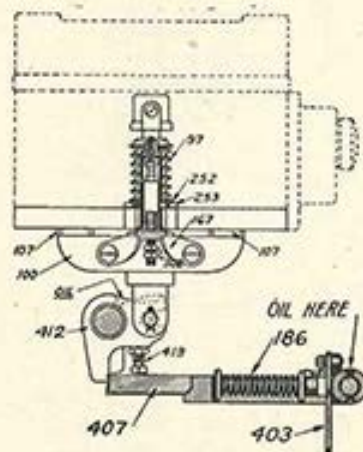
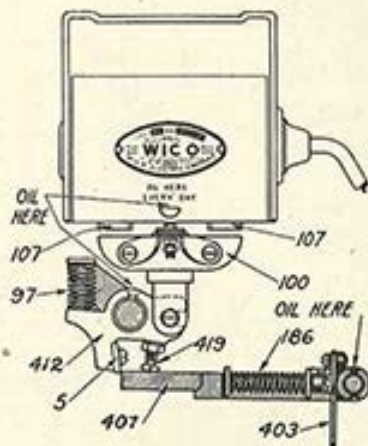

Figure 15
Figure 16
The numbers on Figures 15 and 16 will be used in the instructions on adjusting Wico Magnetos. Figure 15 is a cut of the type P. R. showing the position of the trip finger No. 407 and armature No. 100, just before the contact between armature No. 100 and the face of the cores No. 107 has been broken. Figure 16 is cut of type E. K. showing position of the trip finger No. 407 and armature No. 100 after the contact between armature No. 100 and the face of the cores No. 107 has been broken, also at the point where trip finger No. 407 trips off of rocker arm No. 412 causing armature No. 100 to return to its original position.
(See Figure 16)
Trip the armature (100) from its contact with the cores (107) and insert a strip of metal 7-64" thick between the armature and the face of the cores. Move the push rod slowly until the latch of the trip finger reaches the rocker arm. The edge of the latch should then just engage the edge of the lip of the rocker arm, and the adjusting screw (419) should be bearing on the top side of the latch, (see Figure 16) so that the least further movement of the push rod will cause the latch to slip off the edge of the rocker arm.